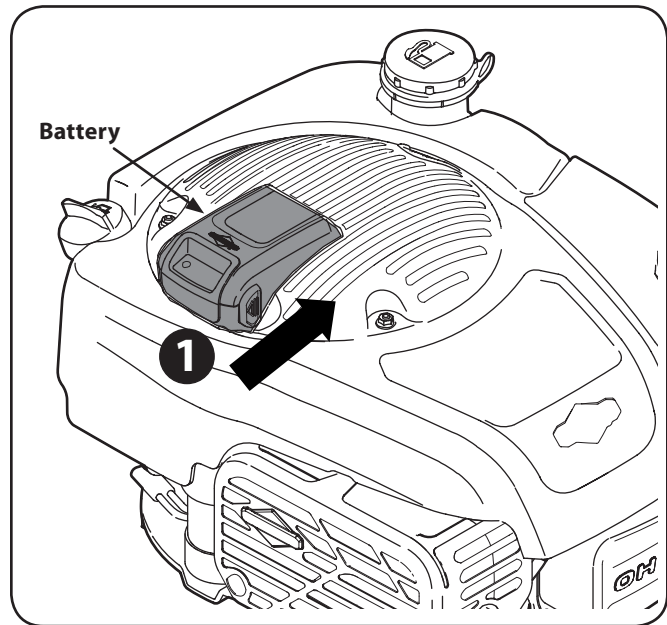

Figure 5-1
1. Check the battery tray on top of the engine for debris and if dirty clean with a brush or cloth. Push the battery pack into the battery tray until it clicks on top of engine. See Figure 5-1.